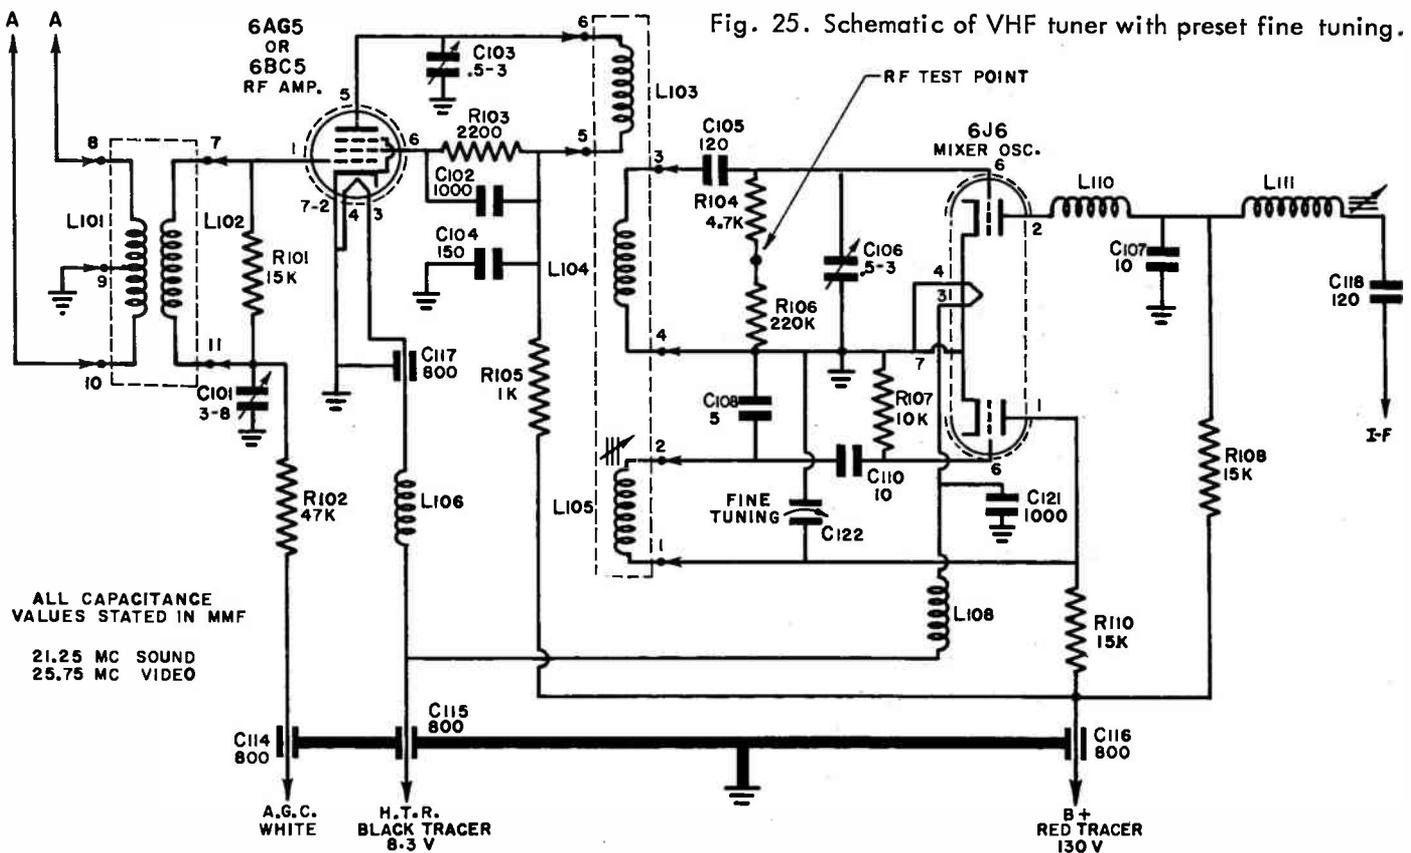
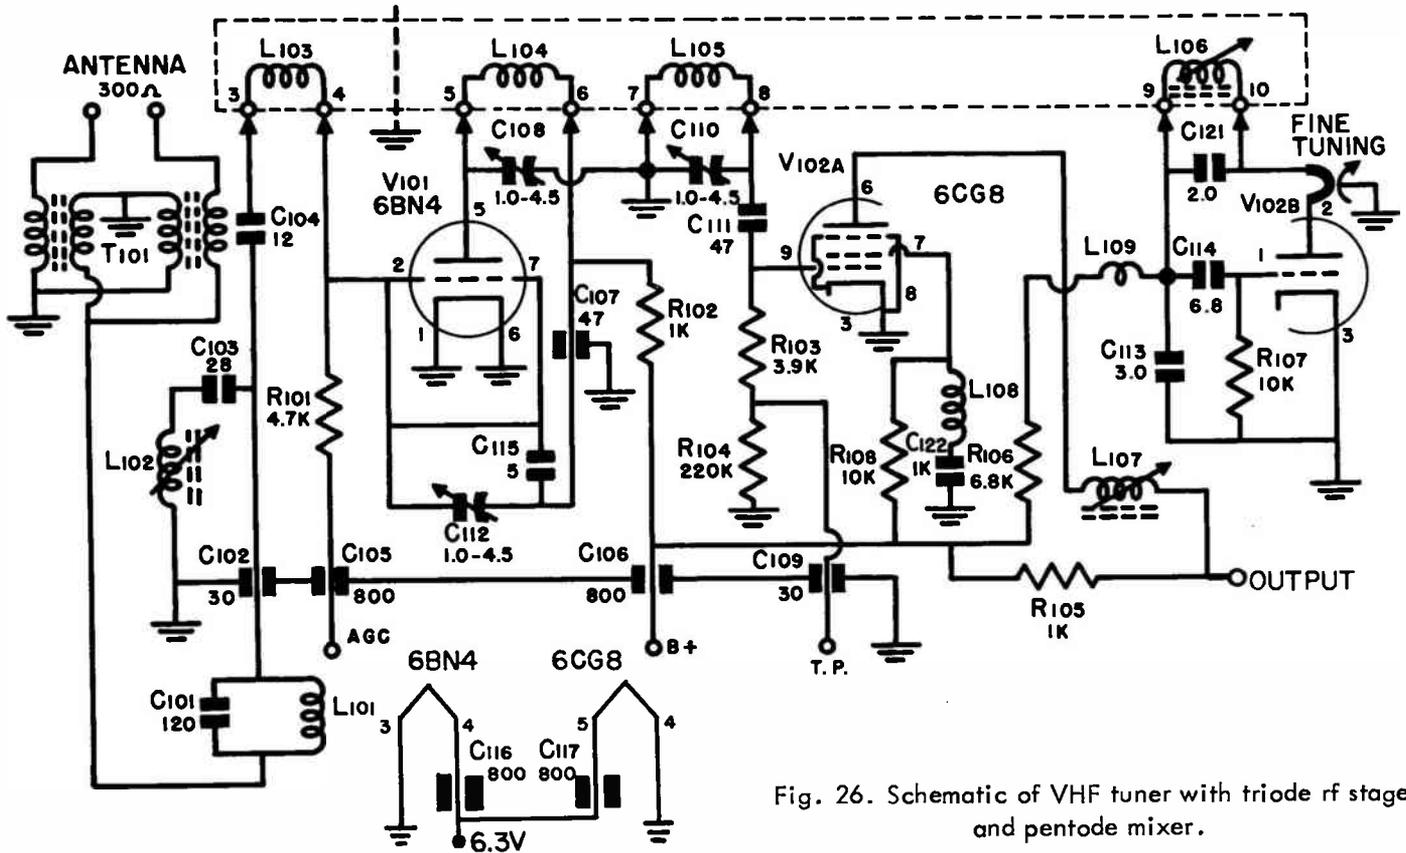

Fig. 25. Schematic of VHF tuner with preset fine tuning.
Fig. 26. Schematic of VHF tuner with triode rf stage and pentode mixer.
The complete schematic of the tuner, shown in Fig. 23A, is shown in Fig. 25. Coils L_{101} and L_{102} are mounted on the strips located to the rear of the drum. Oscillator coil L_{105} , and coils L_{103} and L_{104} are mounted on the front of the drum. A slug inside the oscillator coil is accessible through a small hole in the front of the tuner case. It may be necessary to "touch up" this adjustment when the tuner is first put into service, and from time to time as the tubes and parts age. Let us take a closer look at this tuner to study some of the circuits it uses. It is typical of the type of tuner you may find in some of the older sets you will have to service.
The schematic diagram of the tuner shown in Fig. 23B is shown in Fig. 26. This is a later model tuner and comparison of Figs. 25 and 26 will permit you to see how tuners were improved over a span of several years. Notice in Fig. 26, the input is fed to a balun and then to a parallel resonant trap (C_{101} and L_{101}) to prevent i-f interference. The rf tube is a high gain triode tube designed for use as a VHF rf amplifier. The tube elements are quite small to keep inter-electrode capacities at a minimum. The dc plate current through the tube is kept low to keep tube-generated noises as low as possible.
tralizing signal is fed through C₃ and through the antenna coil to the grid of the rf tube. In Fig. 26, the signal is fed from the rf plate coil through C₁₁₂ and C₁₁₅ to the grid of the tube.
- (w) What is T₁₀₁ in Fig. 26 called?